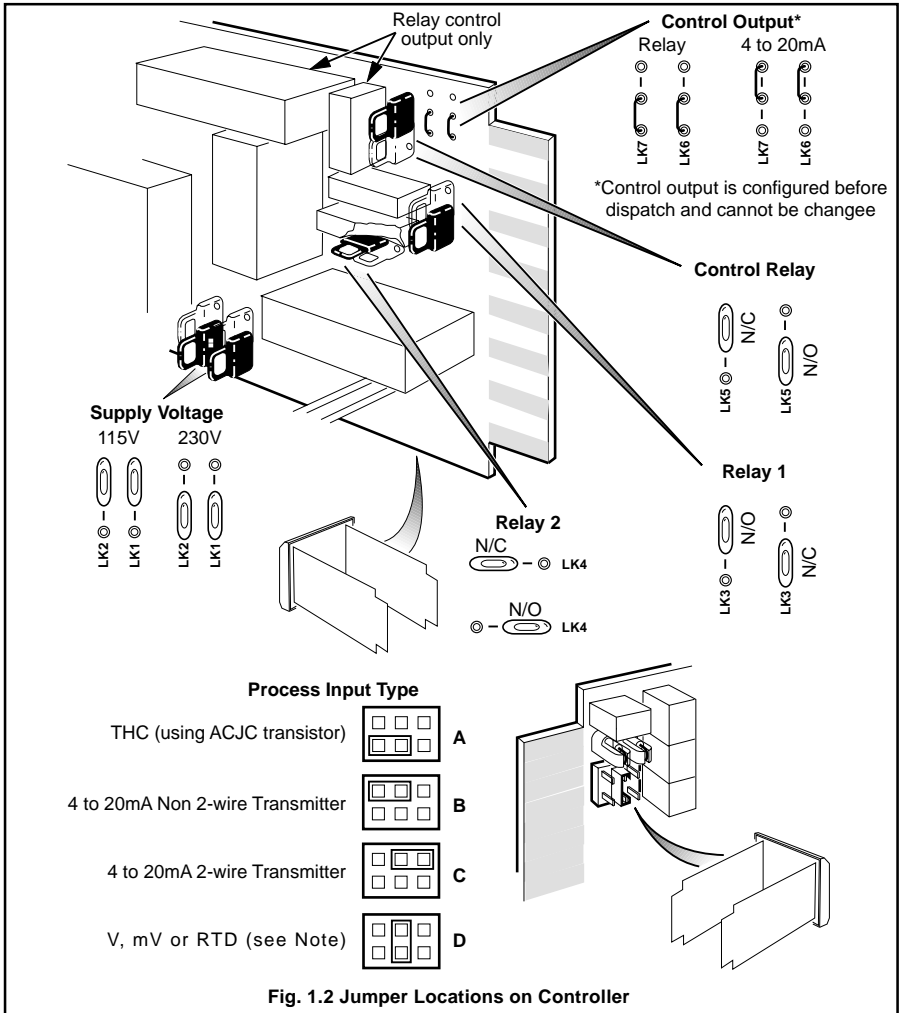

Fig. 1.2 Jumper Locations on Controller
1.3 Shipped Configuration – Fig. 1.2
A configuration label on the side of the instrument identifies the as-shipped configuration of the controller. The jumpers associated with primary power, process input, and RS485 communication (if used) may be correct in their as-shipped position. If changes in the jumper positions are required, remove the instrument from its housing, and change the jumper positions from the rear as shown in Fig. 1.2.
2. Ensure that the input type jumper is positioned as shown in Fig. 1.2, diagram A.
3. If a thermistor is connected across terminals 1 and 2, ensure the input type jumper is positioned as shown in Fig. 1.2, diagram D.